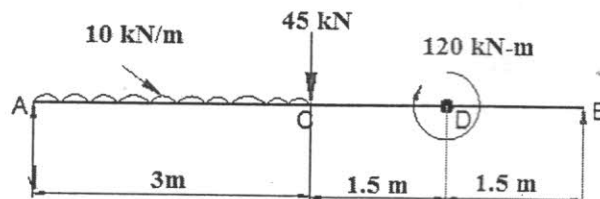

Fig. 5(a)
5. a) A simply supported beam AB of 6m span is loaded as shown in fig. 5(a). Draw the shear force diagram with forces and moments.